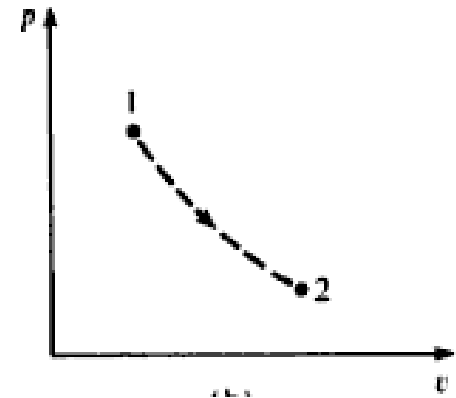

Fig.2.2:Irreversible processes
- An irreversible process is usually represented by a dotted line joining the end states to indicate that the intermediate states are indeterminate (Fig. 2.2)